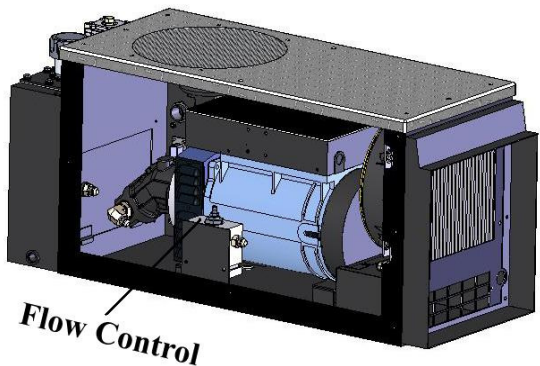

Figure 22: MCR-C FV with Flow Control
5. Locate the flow control (Fig. 22) from the generator.